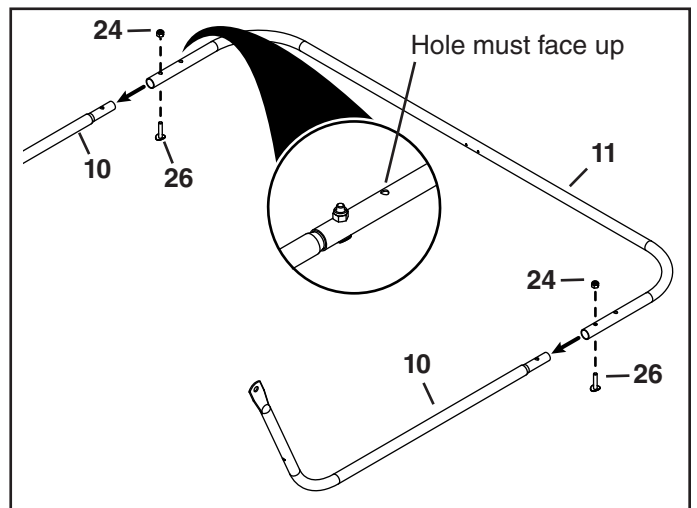

FIGURE 8
- Install a rear hopper tube (11) onto the ends of the lower hopper tubes (10) making sure the holes in the rear hopper tube are facing up as shown in figure 8.
- Secure the rear hopper tube (11) to the lower hopper tubes (10) with two 1/4" x 1" curved head bolts (26) and 1/4" nylock nuts (24). See figure 8.